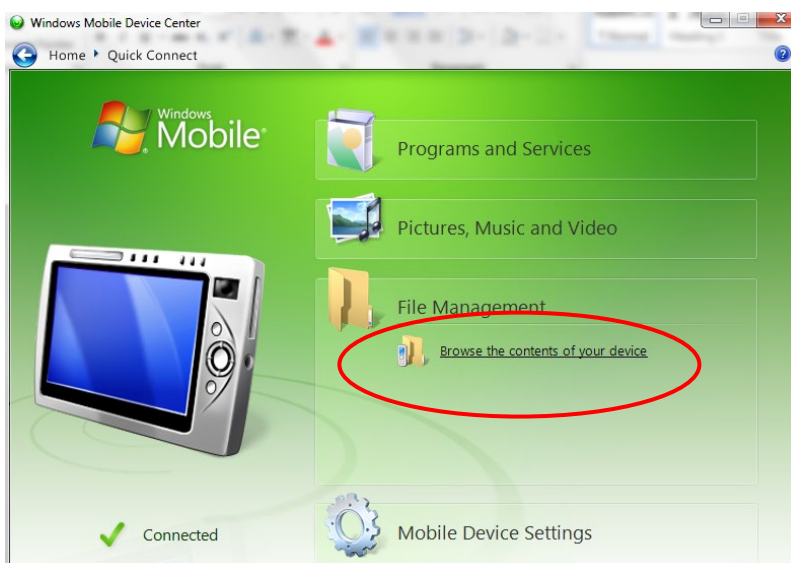

Figure 3-20: File Management
9. Move the PC cursor to select the "File Management", then select "Browse the contents of your device" as shown in Figure 3-20.